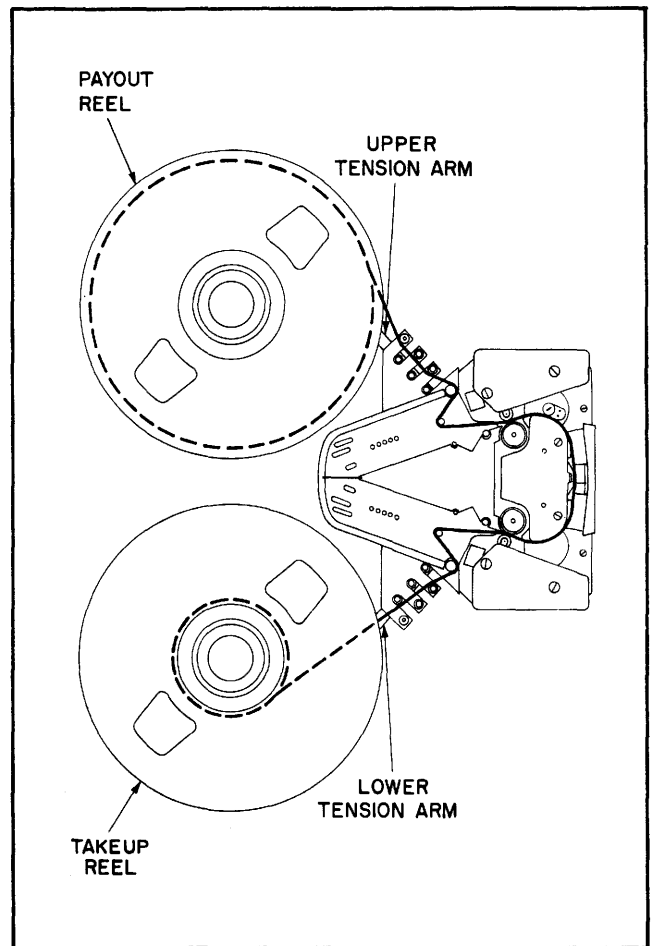

Figure 3-1. Tape Threading Outline
- d. Unreel approximately three feet of tape and thread through drive mechanism as shown in figure 3-1. Hold free end of the tape against core of take-up reel with finger and wind around core.